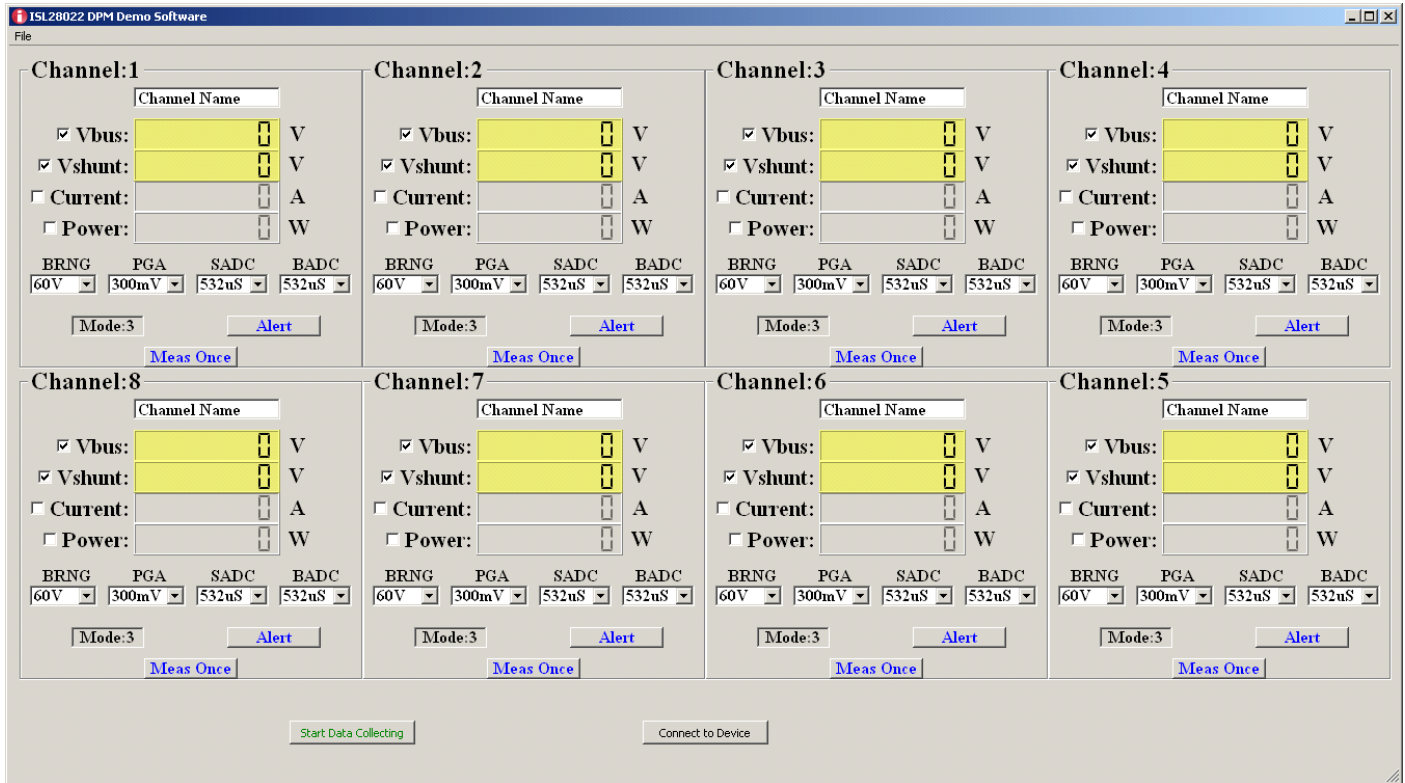

FIGURE 3. ISL28022 DPM DEMO SOFTWARE WINDOW
- To run the program, go to the “Start” menu and choose the isl28022\_DpmMultiSiteEvalBrd folder, and then choose the isl28022\_DpmMultiSiteEvalBrd icon. Once clicked, the demo software window should appear as illustrated in Figure 3.
The file name entered in the dialog box is the base name for all files saved. A unique named file is generated for each measured parameter (Vbus, Vshunt, Current, Power) across 8 channels. The software only saves data to a file for each measured parameter selected. If a measured parameter is not selected across 8 channels, then a file with the non-selected measured parameter is not generated. For example, power and current files would not be generated for the configuration of the DPM window shown in Figure 3.